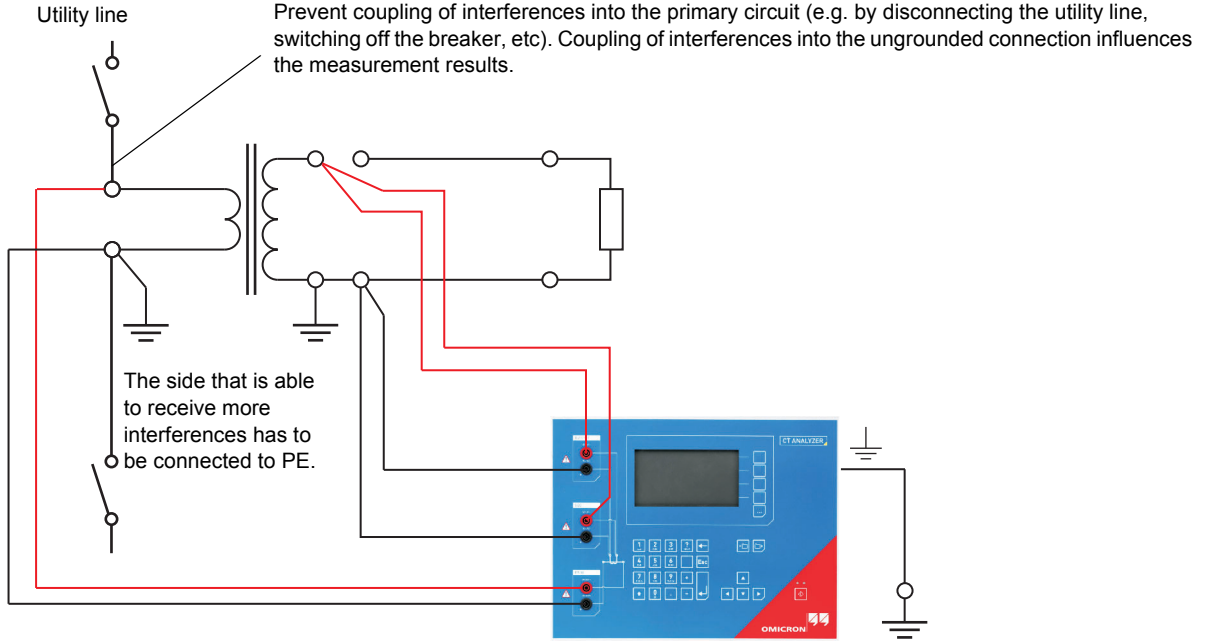

Figure 3-2: Basic wiring for a CT test
For a CT test, connect *CT Analyzer* as shown in Figure 3-2:
- ▶ Connect the side of the primary circuit that is able to receive more interferences to PE (e.g. the side with the longer line length). The ungrounded side should be the side that receives less interferences (refer to Figure 3-2).